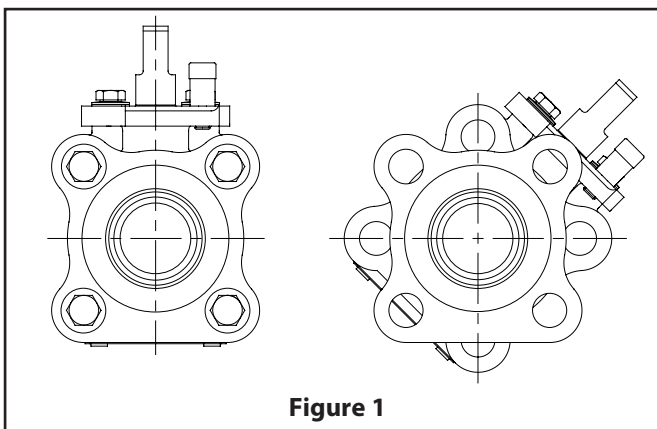
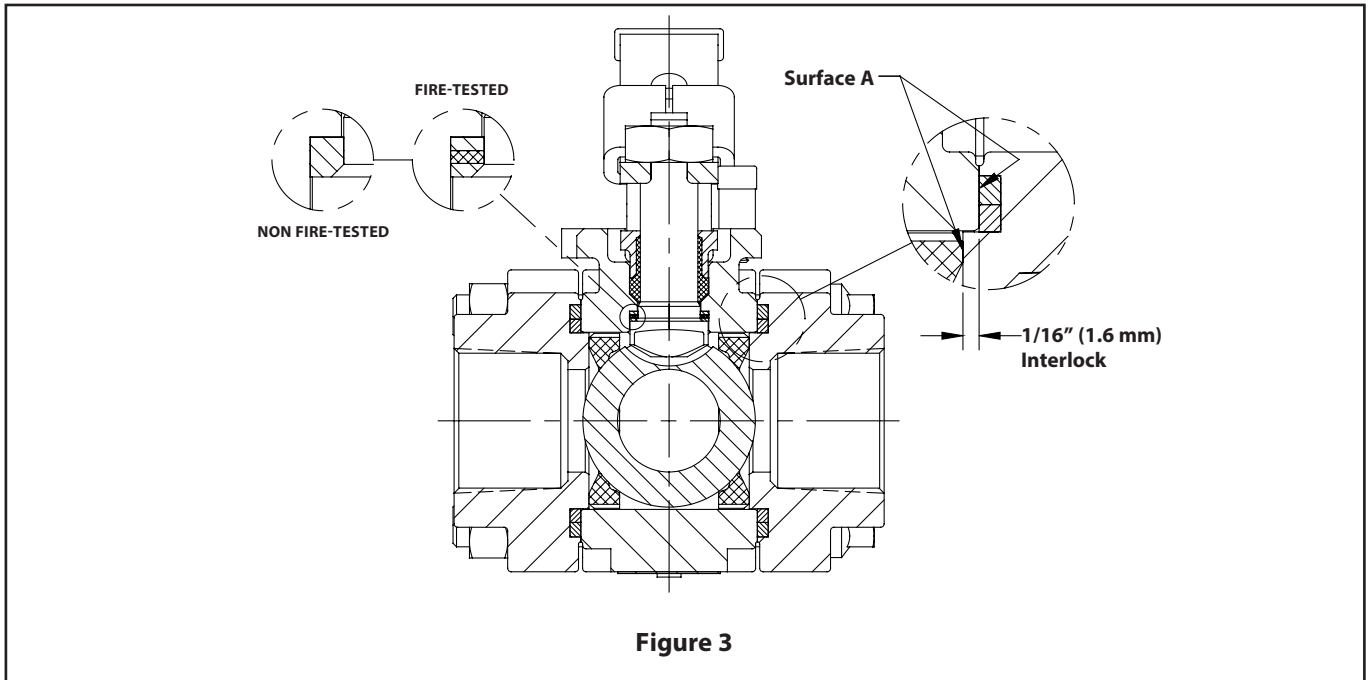
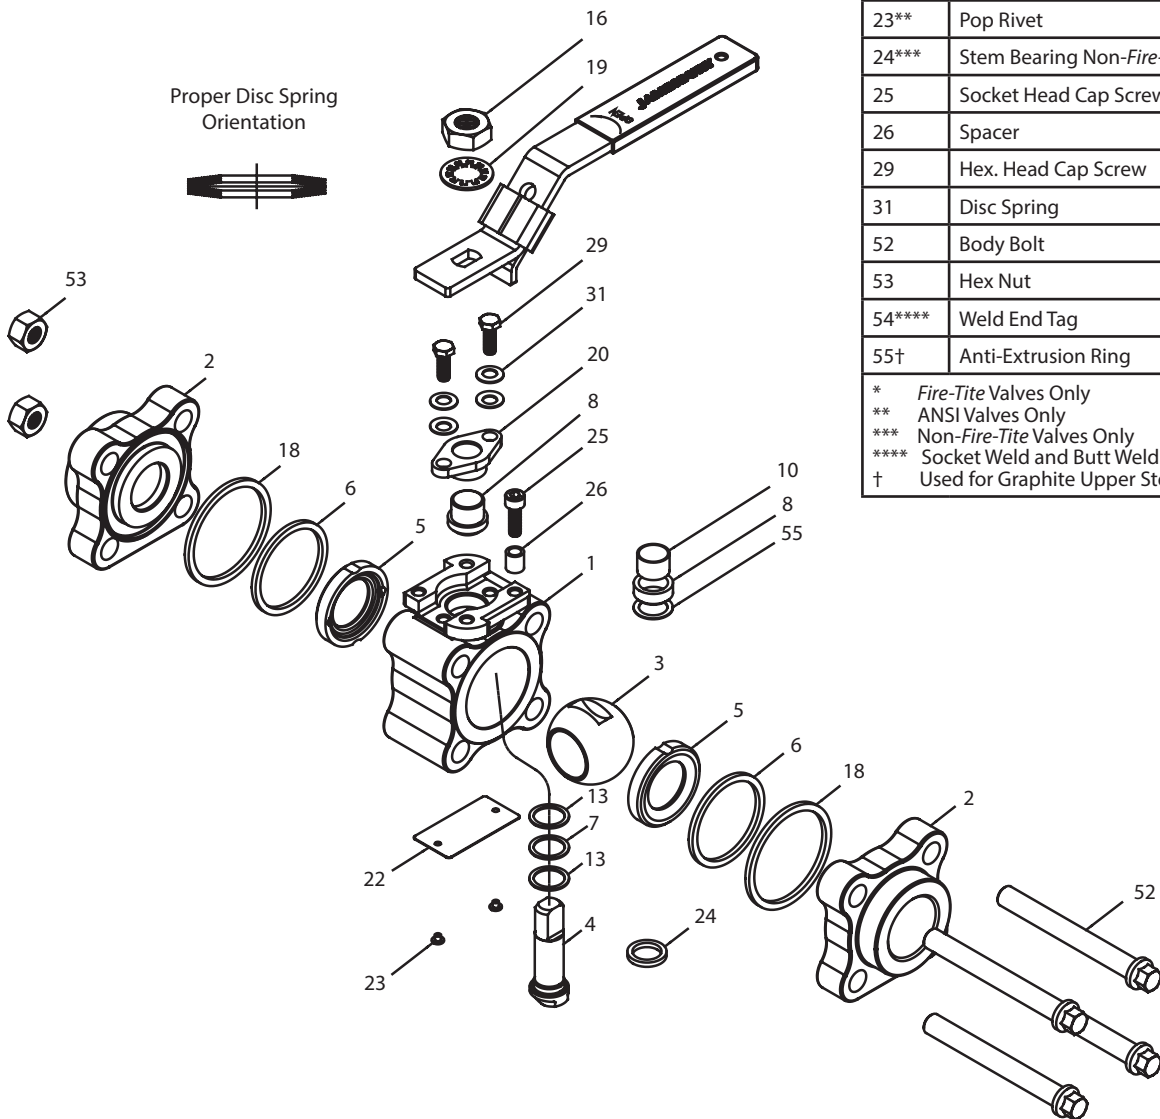

Figure 1
Figure 3
Figure 4
3. Remove the handle nut (16) and handle (17).
4. Loosen all four body bolts (52). Remove three from the valve. Leave the remaining bolt in place with the hex nut (53) backed off at least 1/4" (6.4 mm).
5. For positive alignment and ease of in-line assembly, each end cap is interlocked approximately 1/16" (1.6 mm) into the body as shown in **(Figure 3)**. To overcome this feature during in-line disassembly it is necessary to separate each cap at least 1/8" (3.2 mm) from the body. Sharply rap body and caps with a block of wood or plastic mallet to break loose body seal. Spread end caps and swing the body out of the line. If pipe does not allow simple spreading, remove the remaining body bolt and rotate center section per **(Figure 1)**. This will improve access to the end cap flange for ease of spreading. Swing the valve body (1) out from between the end cap (2). Be careful not to damage the sealing surfaces "A" **(see Figure 3)** at each end of the valve.
1. With the valve swung to the out-of-line position, insert from the inside of the body a stem bearing (13), a secondary stem seal (7), then another stem bearing (13) into the stem bore. For non-Fire-Tite valves use one stem bearing (24). See **(Figure 3)** and parts list **(Figure 4)**.
3. Holding the stem in place from the bottom, install the stem seal (8) and the compression plate (20). For valves with graphite stem seals (8), install upper stem bearing (10) and anti-extrusion ring (55) prior to installing the stem seal (8).
4. Place the disc springs (31) on top of the compression plate over the bolt holes and insert the hex. head cap screws (29) and bring them down hand tight with the disc springs. **NOTE:** See (Figure 4) for proper disc spring orientation.
5. While pressing the stem upward from inside the body, torque the hex head cap screws (29) applying the torque shown in (Table 2). Apply torque evenly alternating between the two hex head cap screws so that compression plate will be parallel with the valve body bonnet.
6. Align the stem blade with the ball slot. Insert the ball (3) and then rotate the stem (4) so that the ball is in the closed position.
7. Working at either end of the body (1), place a seat (5) into the body. Fit it snugly against the closed ball. **NOTE:** The sealing surface of the seat is toward the ball (see Figure 4).
8. Place an inner body seal (6) and an outer body seal (18) into the machined sealing groove of the body cap (2) (see Figure 3). **NOTE:** On those valves with metal seats (DH seat/seal code), there is a one piece body seal (6). Be certain that the groove and seal are clean.
13. Bolt the valve together with lubricated body bolts (52) and hex. nuts (53). Tighten these bolts evenly and alternately. (See Table 1 for the torques.)
14. Attach the handle (17) and secure it with the handle nut (16) applying the torque shown in (Table 3).
- From **Figure 4**, the ballooned part number, part name and quantity required